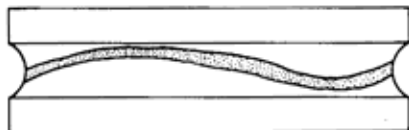

FIGURE 19
4. Wavy track (Fig. 19) is caused by misalignment of the bearing race rotating in respect to the load.